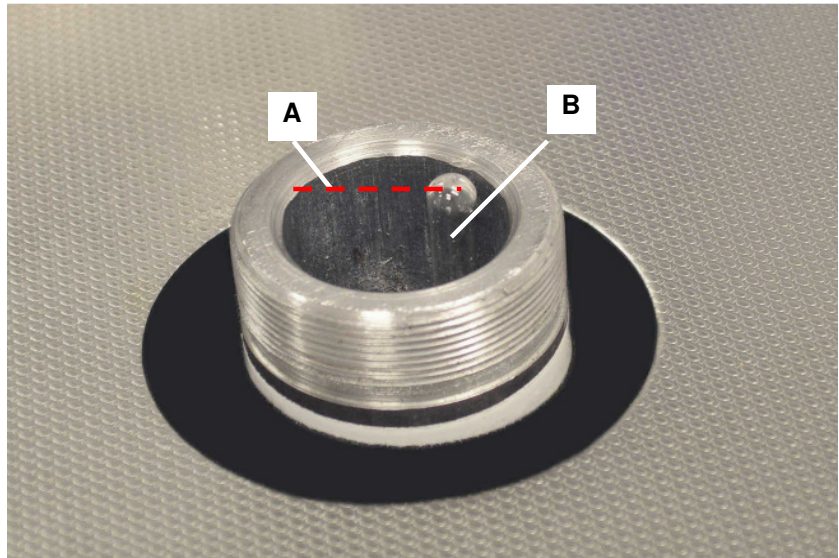

Figure 7.1. Filler tube with glass float at maximum filling level
The reactor has maximum filling if the upper edge of the glass float is level with the upper edge of the filler tube (*see Figure 7.1.A*). Distilled water must be refilled as soon as the glass float in the filler tube has sunken by more than 1 centimetre.
6. To do so, place the funnel (from scope of supply) into the filler tube and carefully fill in distilled water until the upper edge of the glass float is level with the upper edge of the filler tube (*see Figure 7.1.A*)